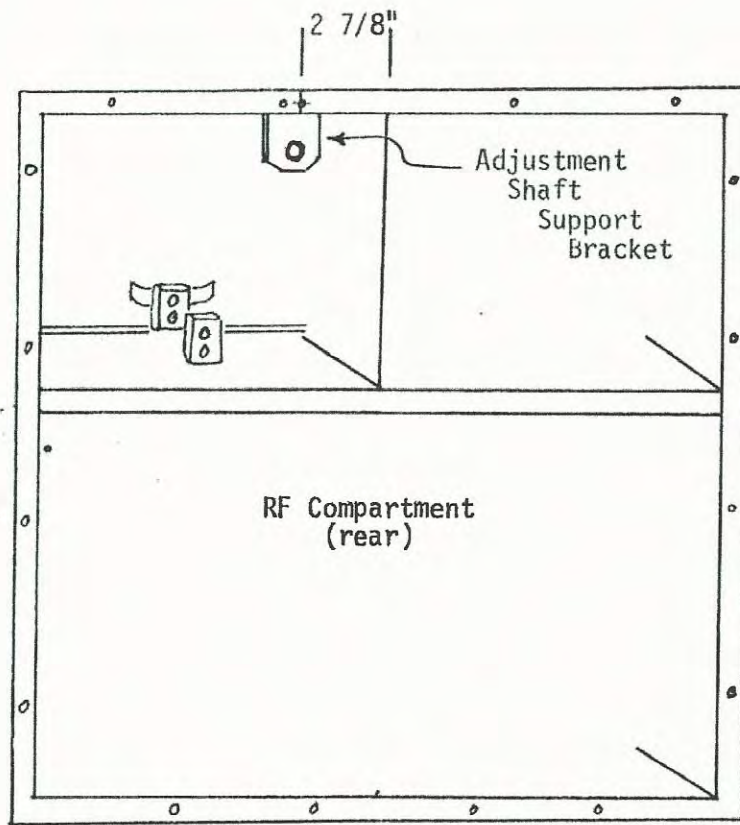

Figure 2A
- d. Mount the 113/16" rod for A9C10 as shown in Figure 2A and 2B. The support bracket is mounted under the lip of the compartment after drilling two countersunk holes.